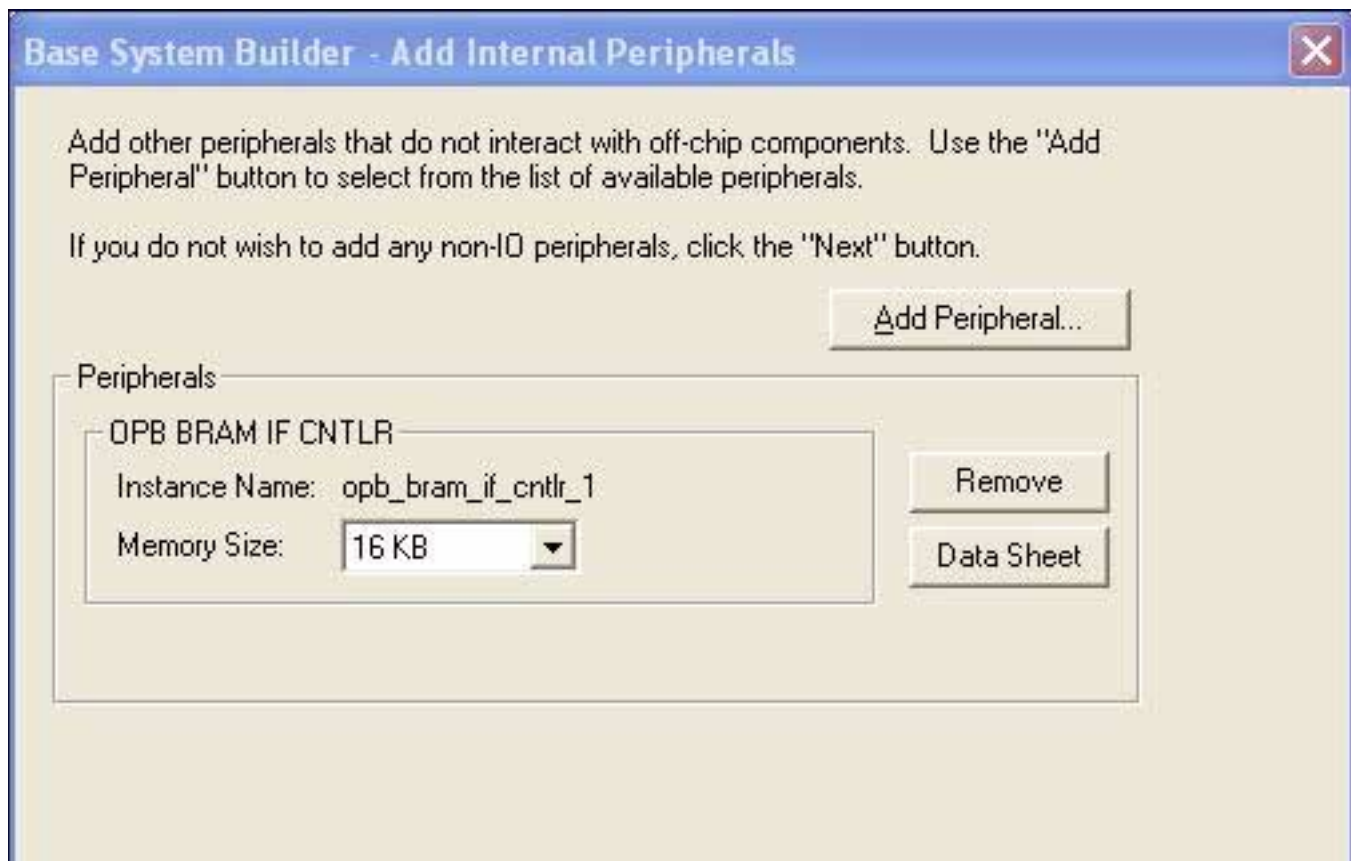

Figure 8: Adding OPB BRAM CNTLR
7. Click **Next**. Click on **Add Peripheral**. Add a 16KB OPB BRAM IF CNTLR as shown in figure 8.